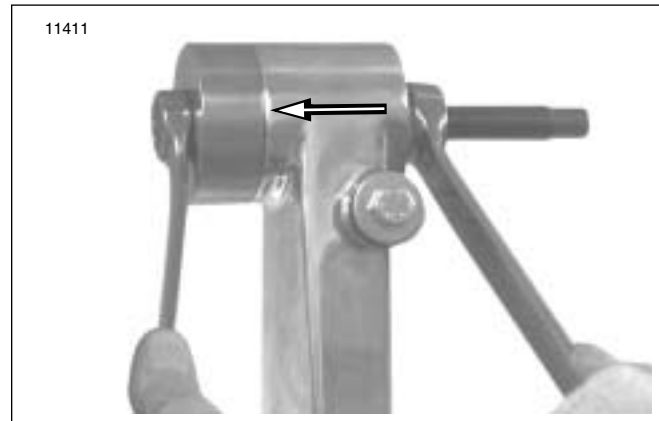

Figure 2-160. Remove Left Side Swingarm Bearing (typical)
1. See Figure 2-160. Position Remover Cup against inner left arm of swingarm with cupped side facing swingarm.